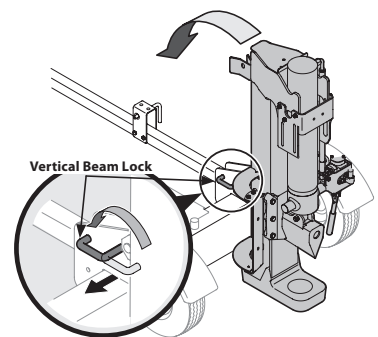

Figure 4
12. Pull out the vertical beam lock, rotate it back and pivot the beam to the horizontal position until it locks. Be sure to avoid any possible pinch points. See Figure 4.